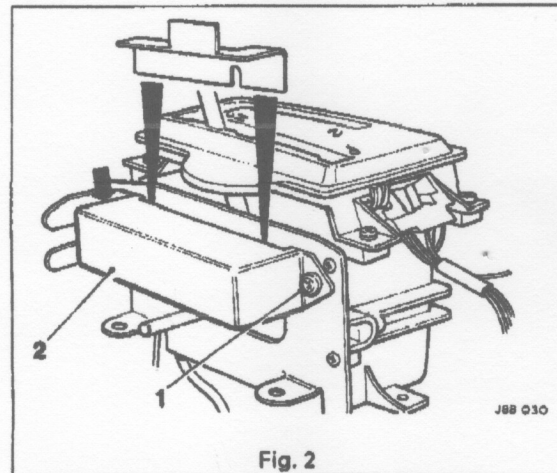

Fig. 2
- Remove the securing bolts (1 Fig. 2), and remove the linear switch (2 Fig. 2).
- Operate the interlock solenoid override latch (2 Fig. 2) (a 'torx' type tool is necessary to remove the plug (4 Fig. 2)) to enable the gearshift to be moved from the 'P' –park position to the 'D' – drive position.
- Slacken the linear switch (2 Fig. 2) securing bolts (1 Fig. 2), and operate the gear selector lever to engage 'N' position.